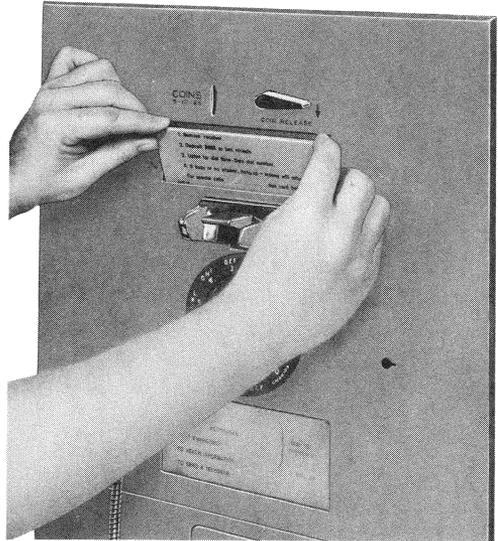

Fig. 24—Installing Instruction Card in 2-Type Set With 812360410 Card Spring
- (1) Push down with fingers (Fig. 24).
- (2) Snap card in place.
- (3) Ensure that card is seated properly.